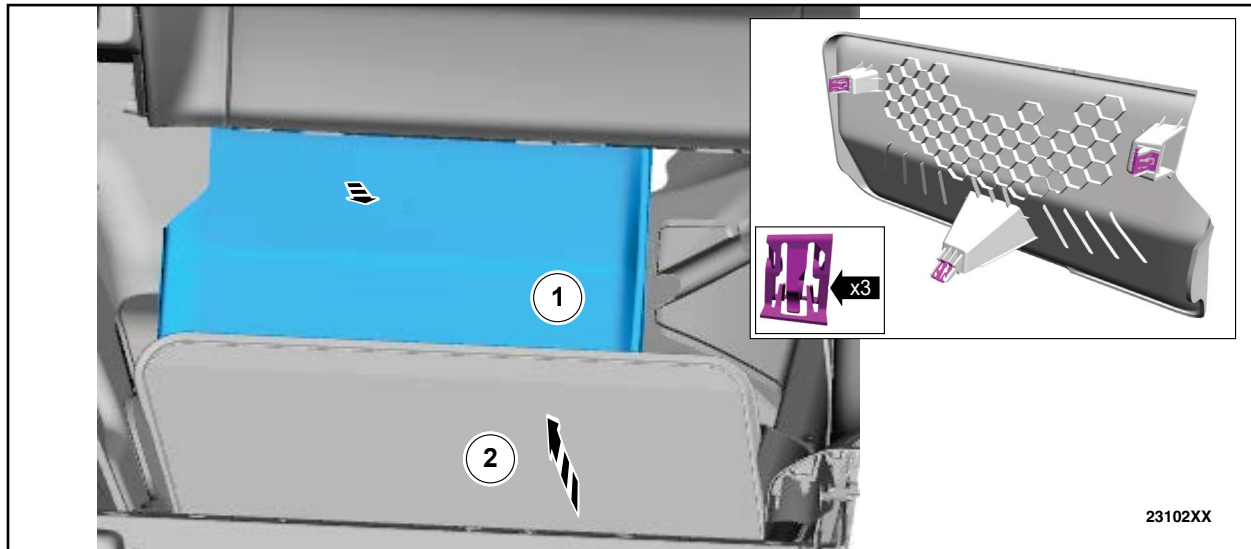

FIGURE 25
30. Install panel. See Figure 25.